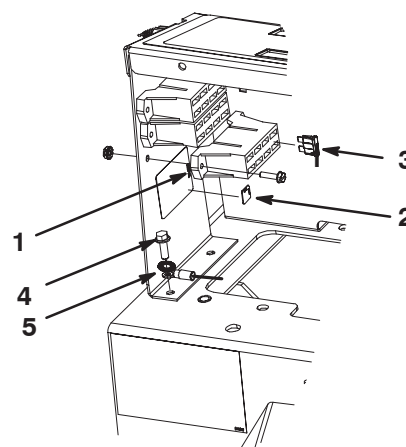

Figure 3
9. Mount the new fuse block below the existing fuse block with a #10 x 3/4 in. screw and locknut (Fig. 3).
- Secure the ground wire ring terminal, from the harness, to the grounding bolt (Fig. 3 & 5). Use the star washer included when making the connection
12. Affix the fuse decal to the corresponding location on the fuse block decal (Fig. 3). Make sure the decal surface is clean an dry before affixing the new decal.